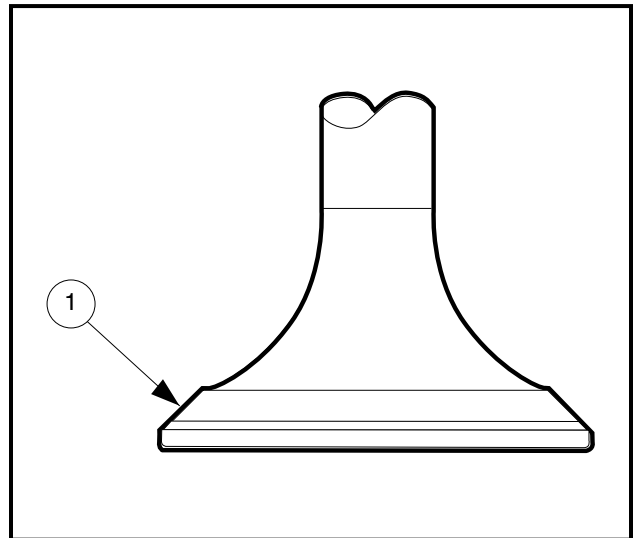

Figure 3-23 Valve Head Seating Area
1. Inspect the valve head seating area (1) for erosion, nicks and warping, etc. (**Figure 3-23, Page 3-13**). See following **NOTE**.